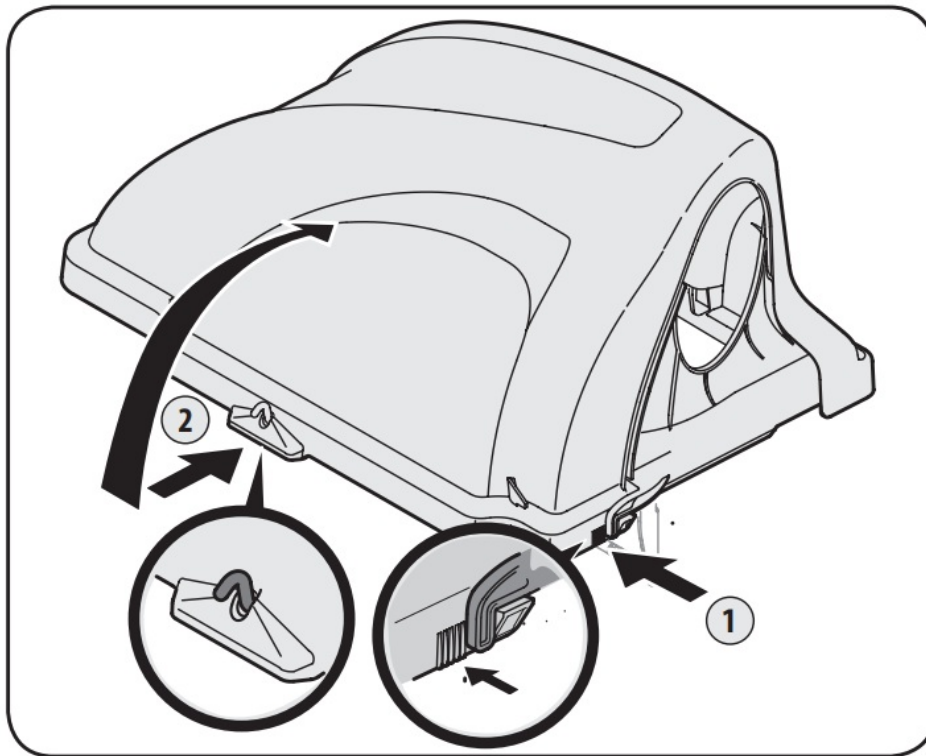

Figure 4-12
13. Open Hood by pushing in on the rear, right-side tab with your right hand, as seen in 1 of Figure 4-12, and lifting the cover with your left hand in the center rear of the bagger cover, 2.